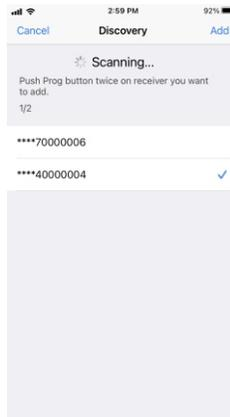

Figure 6
5. Once the device/device(s) are discovered, tick the device/device(s) and tap "Save" button, the device/device(s) will be added successfully. (as shown in **Figure 6**)